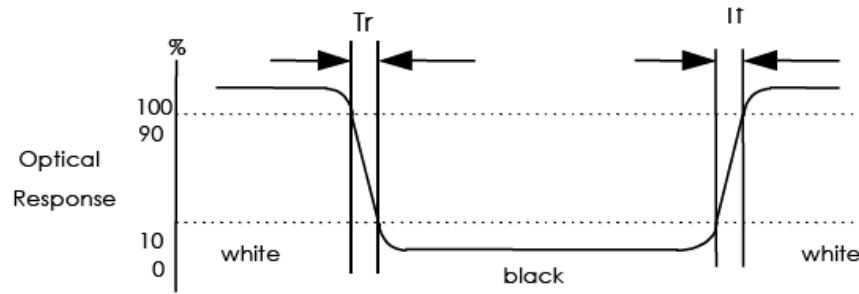

FIG. 2 Measuring method for Contrast ratio, surface luminance, Luminance uniformity , CIE (x, y) chromaticity
Note 1. Contrast Ratio(CR) is defined mathematically as For more information see FIG 2.
Note 2. Surface luminance is the LCD surface from the surface with all pixels displaying white. For more information see FIG 2.
Note 3. The uniformity in surface luminance, δ WHITE is determined by measuring luminance at each test position 1 through 5, and then dividing the maximum luminance of 5 points luminance by minimum luminance of 5 points luminance. For more information see FIG 2.